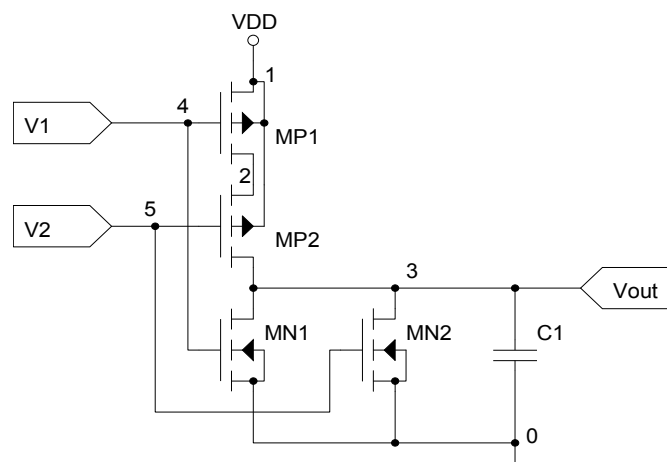

Figure 3: Schematic of NOR-gate.
- A SPICE netlist should be created for the NOR gate, that is shown in Figure 3, whereas the same MOS transistor models should be used as in the previous example.